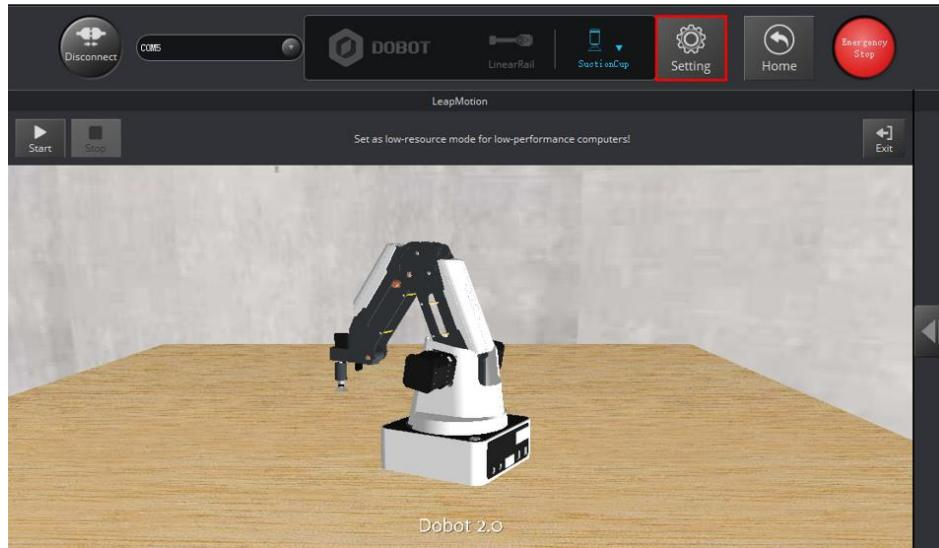

Figure 5.110 Click Setting
**Step 3** Click **Setting** on the **DobotStudio** page, as shown in Figure 5.110.